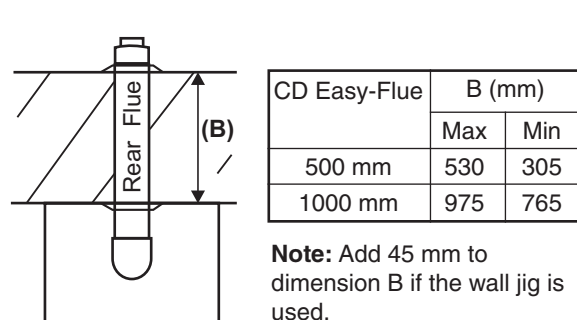

Fig. 5.5
5.6 FIT THE FLUE - Figs. 5.5 and 5.6
- When the flue length required is more than the maximum stated in Section 5.6, paragraph 1, refer to the table below and Figs 5.5 and 5.6.